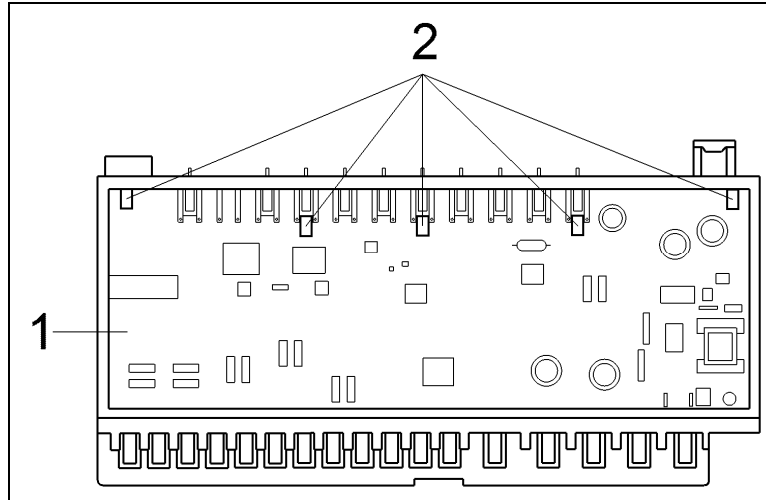

Figure 010-12: Power Electronic Retainers
6. Unclip the power electronic; see Figure 010-12, Items 1 and 2.